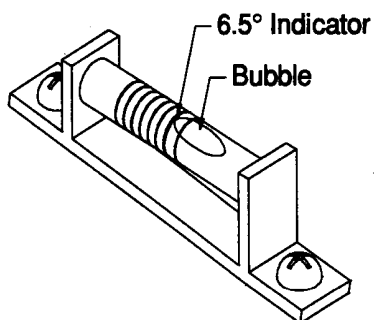

FIGURE 15
19. The level is located on the right shooter rail. The first line, (closest to the front of the game), on the level is approximately 6 degrees. Every line thereafter is approximately another 1/2 degree of pitch. The game is properly leveled when the NOSE of the bubble is between the first and second line on the level. See Figure 15.